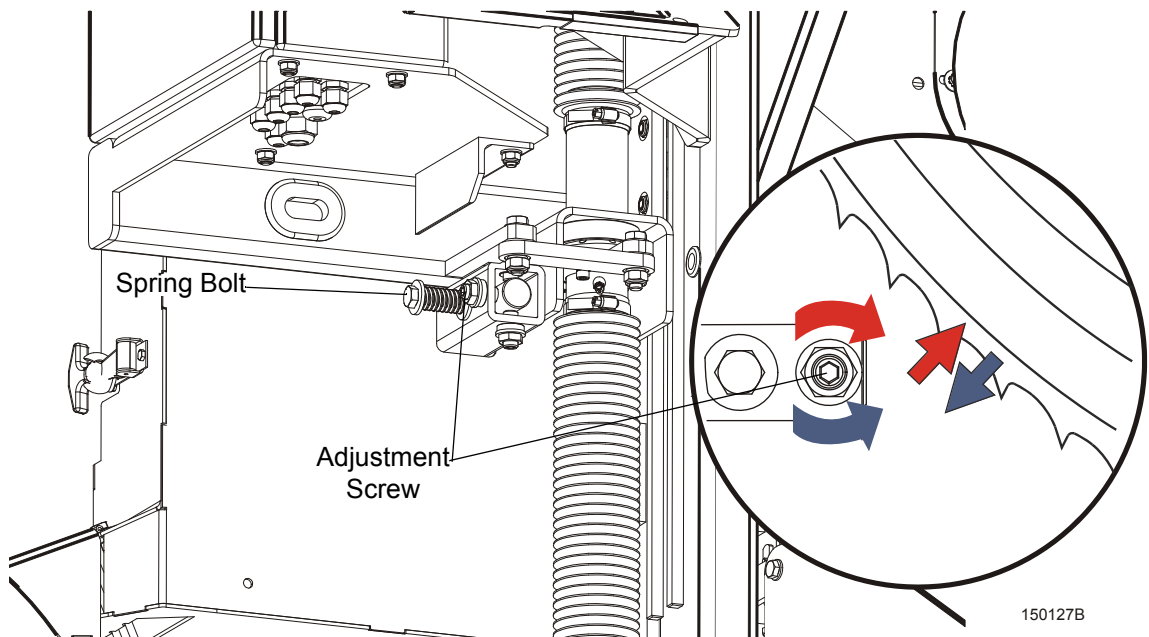

FIG. 4-7
**See Figure 4-7.** Use the horizontal adjustment screw to adjust the drive-side blade wheel. Loosen the jam nut on the adjustment screw. Loosen adjustment screw to move blade out on wheel. Tighten adjustment screw to move blade in on wheel. Tighten the jam nut.